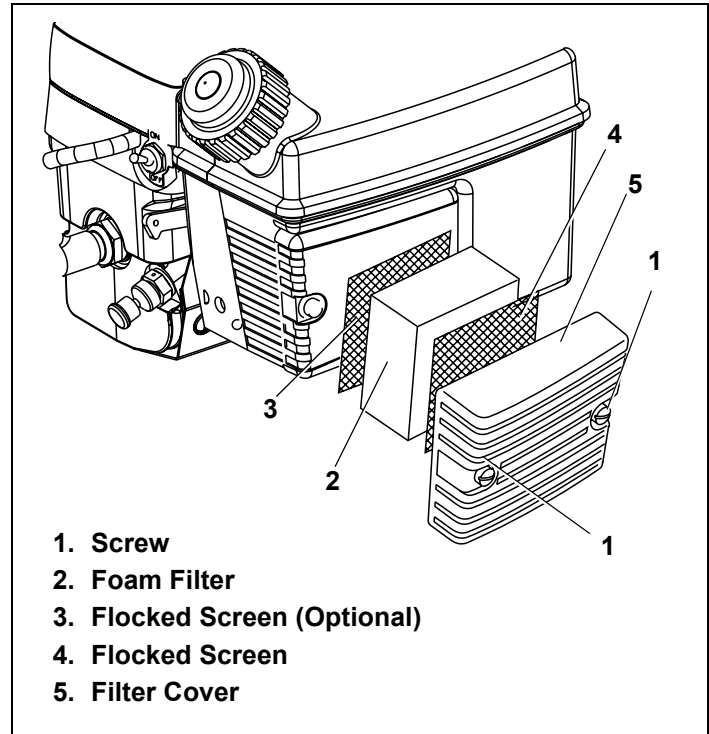

Figure 21. Air Filter Assembly
1. Remove screws. See Figure 21.